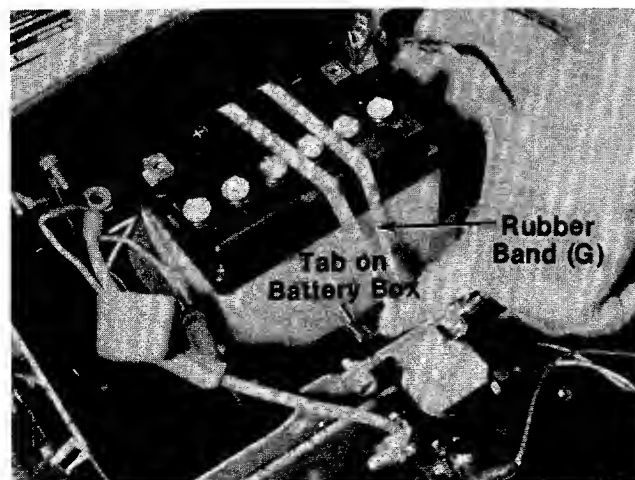

**FIGURE 9.**
11. Place the battery in the rider so that the positive terminal is towards the **right** side of the unit. See figure 9.